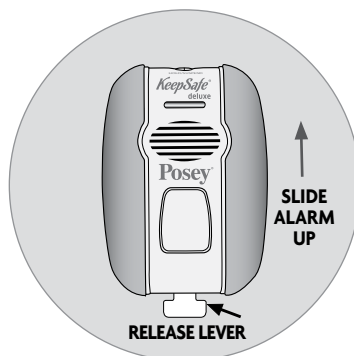

Fig. 16 - Alarm/Bracket (Front View)
5. To remove alarm, gently push release lever IN while sliding alarm up and out (fig. 16).